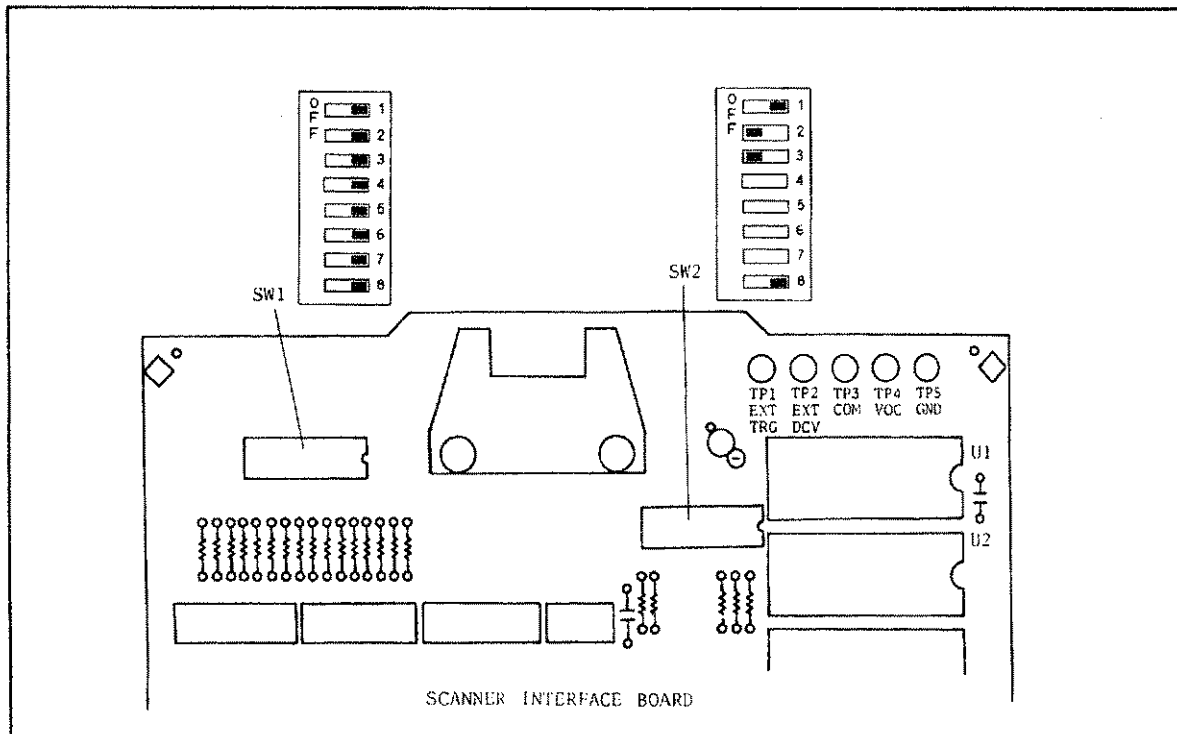

Figure 6-16. SW1 and SW2 settings
4. Set SW1 and SW2 on the scanner interface board to the same settings as when the board is shipped from the factory referring to Figure 6-16.
6. Use the appropriate power leads and clips to apply +5 V to the scanner simulator, by making connections between TP2(GND) on the scanner simulator and TP5(GND) on the scanner interface board. Connect between TP1(5 V) on the scanner simulator, and TP4(VCC) on the scanner interface board. Figure 6-16 shows the location of TP4 and TP5 on the scanner interface board.